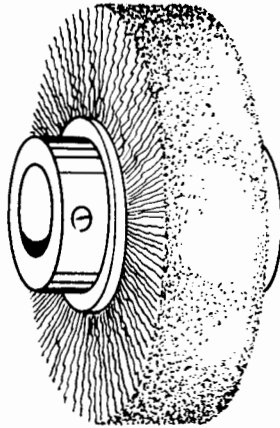

Fig. 225. Roughing wheel.
**Roughing Wheel.** The roughing wheel is an economic, efficient way to rough leather. It eliminates the uneven or slow hand-roughing jobs (Fig. 225). Coming in wheels 1 in. wide x 4 in. diameter, the wheel will fit all standard finisher shafts.